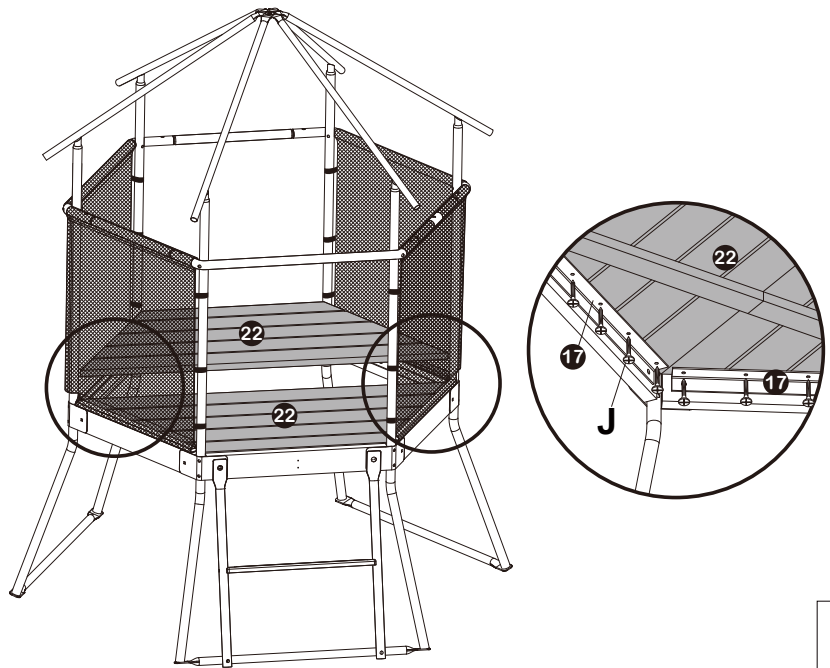

FIGURE 13
- Attach Support Wood (22) to Support Plate (17) as shown in Figure 13.